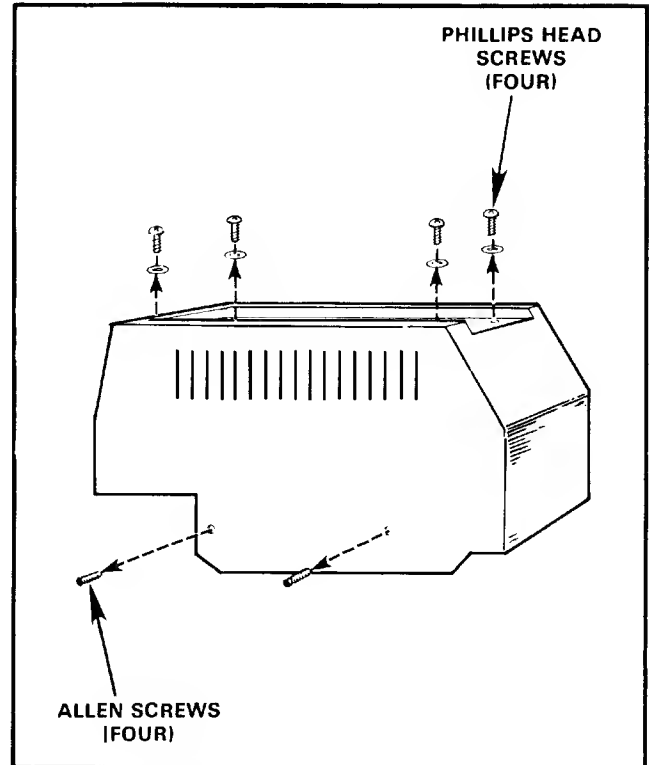

Figure 4-1. LogicPak™ Cover Removal
2. Remove the four phillips-head screws on the top of the LogicPak™ cover (see figure 4-1).
3. Remove the two allen screws on each side of the LogicPak™ cover (see figure 4-1).